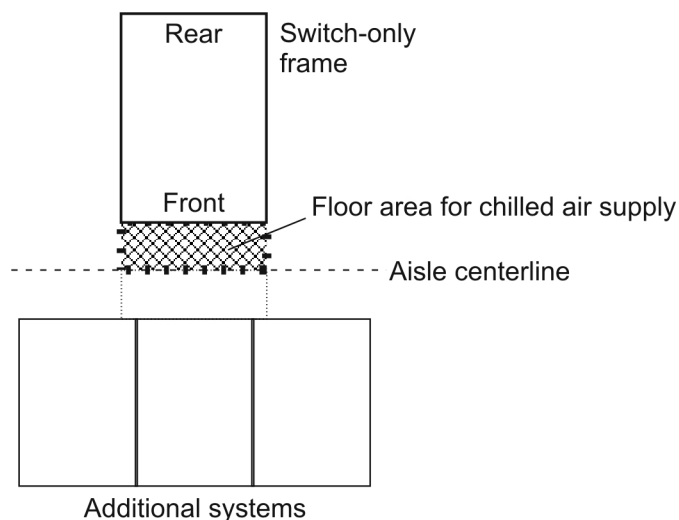

Figure 46. Typical floor plan for proper cooling
- Refer to Figure 46 on page 289 for the proper floor layout